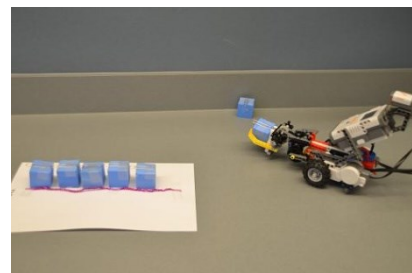

Figure 3
- Grasps another unit placed in the gripper by staff, and drives it to the end of the previous unit (block) and releases it. See Figure 3